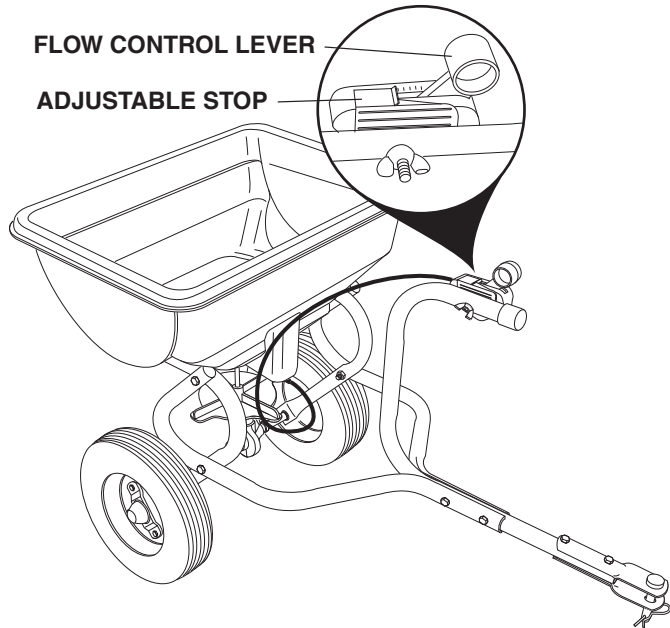

FIGURE 9
- Slide the Adjustable stop to the desired setting and retighten the wing nut. See figure 9.